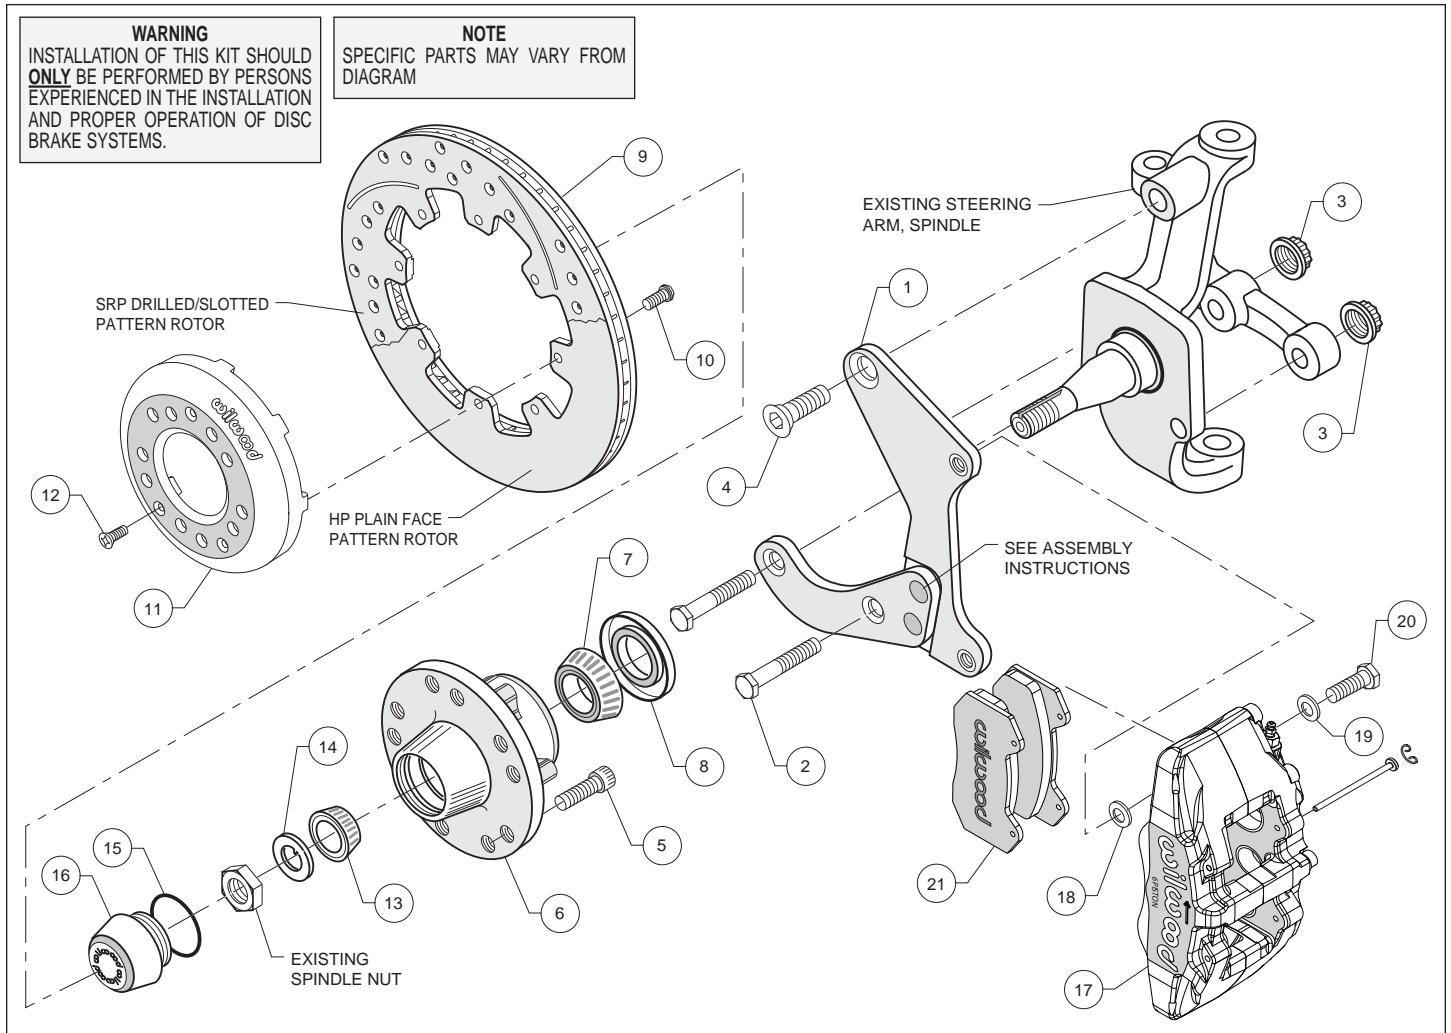
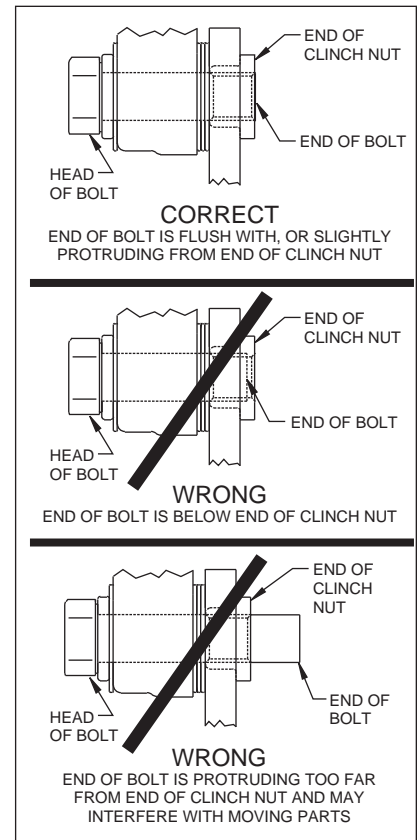

Figure 1. Typical Installation Configuration
Figure 3.
- The spindle and caliper bracket (1) have been assembled at the factory for alignment purposes. Loosen the two bolts that secure the brackets together so that the bolts are hand tight only, this will enable the bracket assembly (1) to be adjusted to accommodate various spindle tolerances during assembly. Bolt the lower portion of the bracket assembly (1) to the backing plate face of the spindle using two bolts (2) and two lock nuts (3), hand tighten only. **NOTE:** Be sure the heads of the bracket assembly (1) insert nuts are facing outward toward the wheel. Install bolt (4) through caliper bracket (1), and into the steering arm. Torque two bolts (2) to 47 ft-lb. Apply red *Loctite*® 271 to the bolt threads (4) and torque to 140 ft-lb. Remove one of the bolts that secure the bracket assembly (1) to each other. Apply red *Loctite*® 271 to the bolt threads and reinsert into the bracket assembly. Repeat this procedure for the second bolt. Torque these two bolts to 40 ft-lb.
- Install five new wheel studs (5) into the hub (6). Torque to 77 ft-lb. **NOTE:** There are two five lug patterns in the hub (5 x 4.50 and 5 x 4.75). Make sure of the correct hole pattern for the correct wheel application before installing studs into hub.
- Pack the large inner bearing cone (7) with high temperature disc brake bearing grease (available from your local auto parts store) and install into the backside of the hub (6).
- Install the grease seal (8) by pressing into the backside of the hub (6).
- Pack the small outer bearing cone (13) with high temperature disc brake bearing grease and install into the front side of the hub (6). Lightly coat the spindle bearing surfaces with bearing grease. Slide the hub assembly (5, 6, 7, 8 and 13) onto the spindle. Secure using spindle washer (14), existing adjusting nut and nut locking device. Adjust wheel bearing pre-load per Original Equipment Manufacturer (OEM) specifications.
- Install the o-ring (15) and the dust cap (16) into the hub (6). Friction created by the o-ring (15) on the dust cap (16) keeps it from unscrewing. The O.D. of the existing spindle washer may be larger than the I.D. of the dust cap (16) which may allow the washer to contact the dust cap (16). Use the spindle washer (14) supplied with the kit instead of the stock washer.
- Orient the rotor (9) and the hat (11) as shown in Figure 1. Attach the rotor to the hat using bolts (10). Using an alternating sequence, apply red *Loctite*® 271 to the threads, and torque to 25 ft-lb.
- Slide the rotor/hat assembly (9, 10 and 11) over the wheel studs (5) in the hub (6) taking care to align the small countersunk holes in the hat (11) with the small threaded holes in the hub (6) Install three flat head socket head screws (12) through the small holes in the hat (11) and torque to 85 in-lb.
- NOTE:** Please reference the caution statement at the beginning of the assembly instructions. This kit contains distinct right and left hand calipers that must be mounted in a specific direction, as described below. Mount the caliper (17) onto the caliper bracket (1) using bolts (20) and washers (19). Initially place two .035" thick shims (18) on each bolt between the caliper and the bracket. Ensure that the caliper is mounted so the largest pistons are at the rotor exit end of the caliper, in relation to the direction of rotor rotation. Temporarily tighten the mounting bolts and view the rotor (9) through the top opening of the caliper. The rotor should be centered in the caliper. If not, adjust by adding or subtracting shims on each of the two mounting bolts. **NOTE:** The end of the bolt must be flush with or slightly protruding from the head of the clinch nut. If necessary, place spare shims between the washer and the caliper mounting ear to achieve the proper clinch nut engagement, as shown in Figure 3. Always use the same amount of shims on both the top and bottom caliper mounting bolts. Once the caliper alignment and clinch nut engagement are correct, remove the mounting bolts and caliper.
- Remove the two pad retaining pins from the caliper (17) by carefully popping out the pin retaining clips and sliding out the pins. Insert the brake pads (21) into the caliper from the bottom, Figure 1, with the friction material facing the rotor. Secure the brake pads in place with the pad retaining pins and clips. Reinstall the caliper onto the caliper mounting bracket. Apply red *Loctite*® 271 to bolt threads (20), and torque to 40 ft-lb.